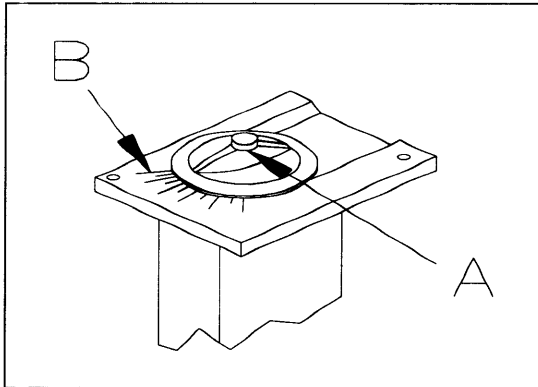

Figure 22-4
- d. Gradually close air damper to decrease O₂ reading or open air damper to increase O₂ reading until optimum O₂ % (4-5%) is reached. Refer to Figure 22-4 & 7, pages 7 & 8 for damper adjustment details.